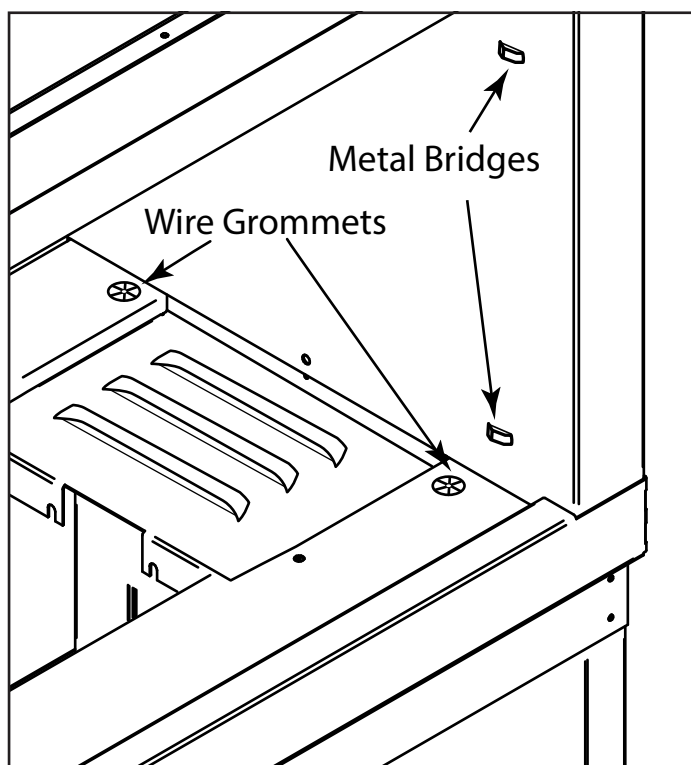
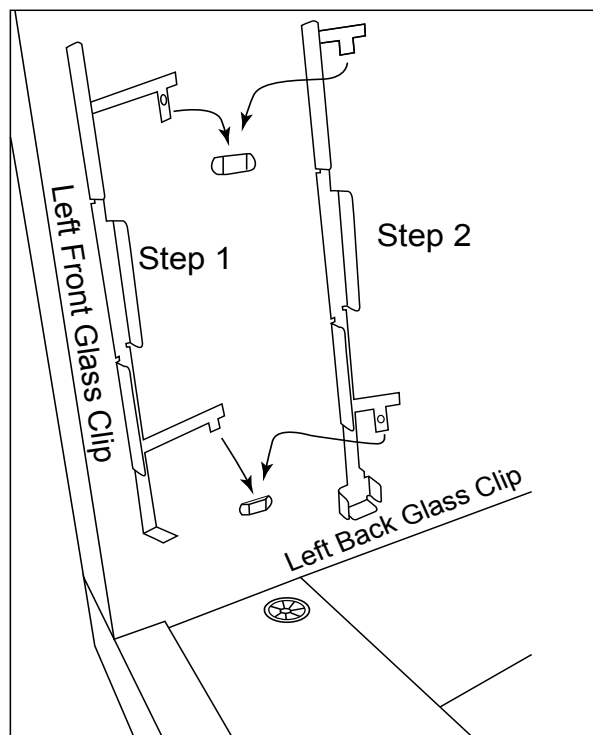

Fig. 16 Locating wire grommets
Fig. 17 Shows both glass clips being installed on right side of fireplace
**Step 3:** Locate the wire grommets inside the firebox. See Fig. 16. Directly above them will be a series of metal bridges to install the glass panel clips. Remove the glass panel clips from the glass panel packaging. **CAUTION:** The metal clips may have sharp edges, handle with care.
**Peel the plastic coating from each glass panel clip before installing.** There will be (4) glass clips. The two longest clips are used for the LED tray assembly and the shorter glass clips will be installed in front of the LED clips. The LED clips (two longest clips) are installed first, closest to the burner tray. **Note:** There are two right side and two left side clips supplied.
Install the LED glass clips by sliding them down through the metal bridges as shown in Fig. 17. Install (1) clip on the left and (1) clip on the right side of the inner fireplace side panel. **Note:** If you are preparing a see-through fireplace you will install a total of (8) glass clips, two for each open side. The additional clips are supplied with the see-through conversion kit.